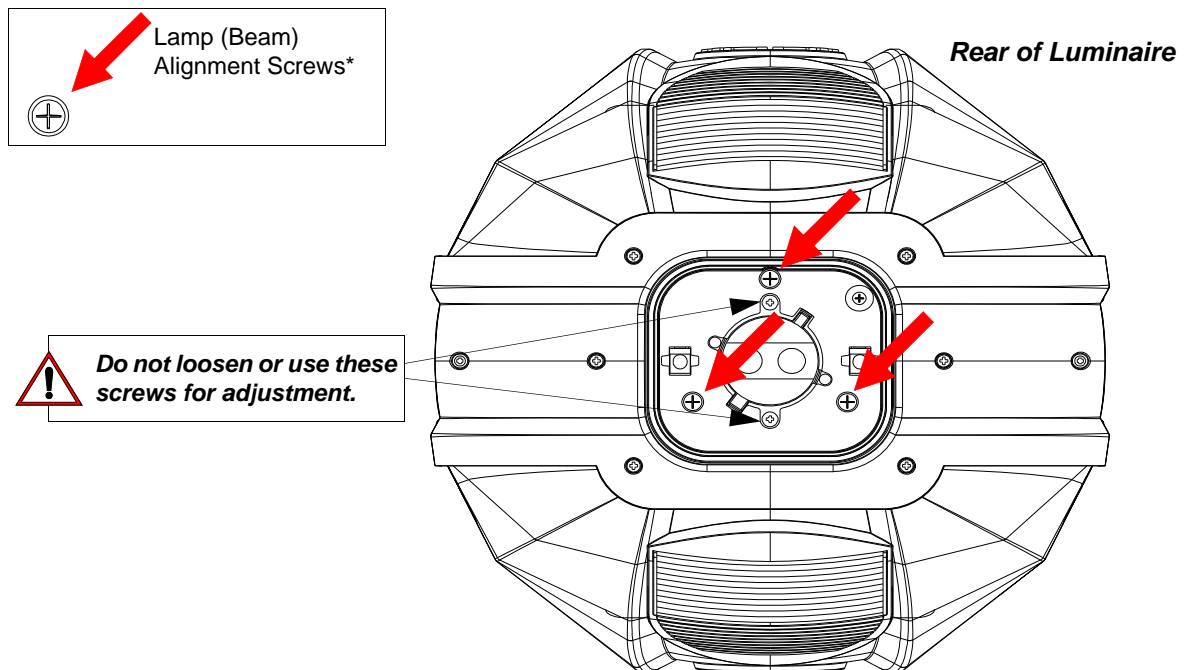

Figure 2-5: Lamp Alignment Screws
- Step 5. Using three alignment screws (as indicated with Red Arrows in Figure 2-5) adjust hot spot to center of beam.